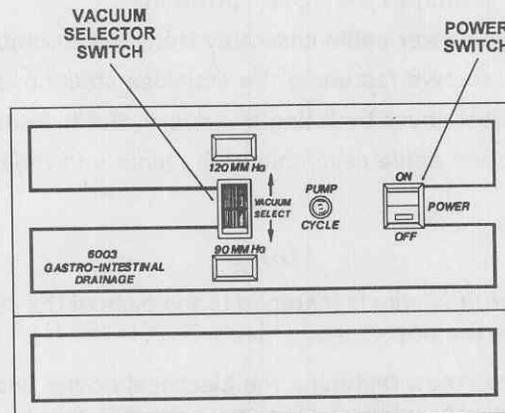

Figure 3-5. Switch orientation.
- (1) Orient the replacement switch as illustrated in figure 3-5 and insert it into its mounting hole until its mounting tabs lock it into place.